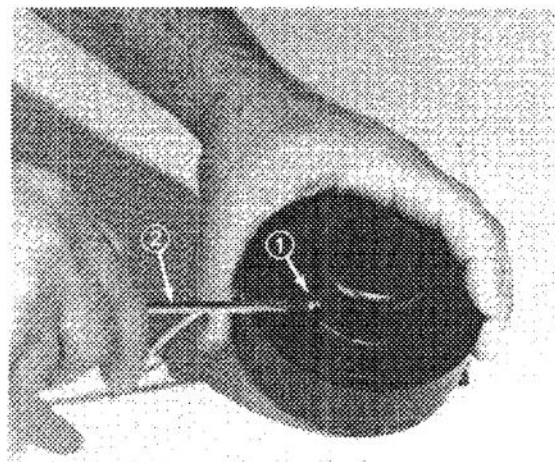

Figure 39
1. Insert a medium blade screwdriver into one of two slots on spool hub, twist screwdriver 1/4 turn to remove spool (Fig. 39).